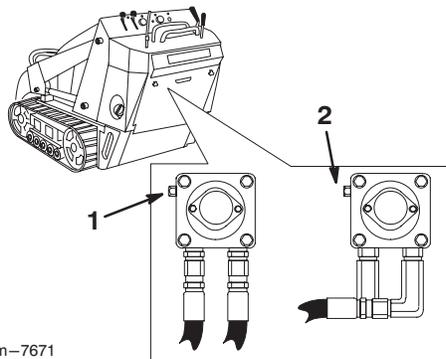

Figure 11
3. Using a wrench, turn the tow valves on the hydraulic pumps twice counter-clockwise (Fig. 11).